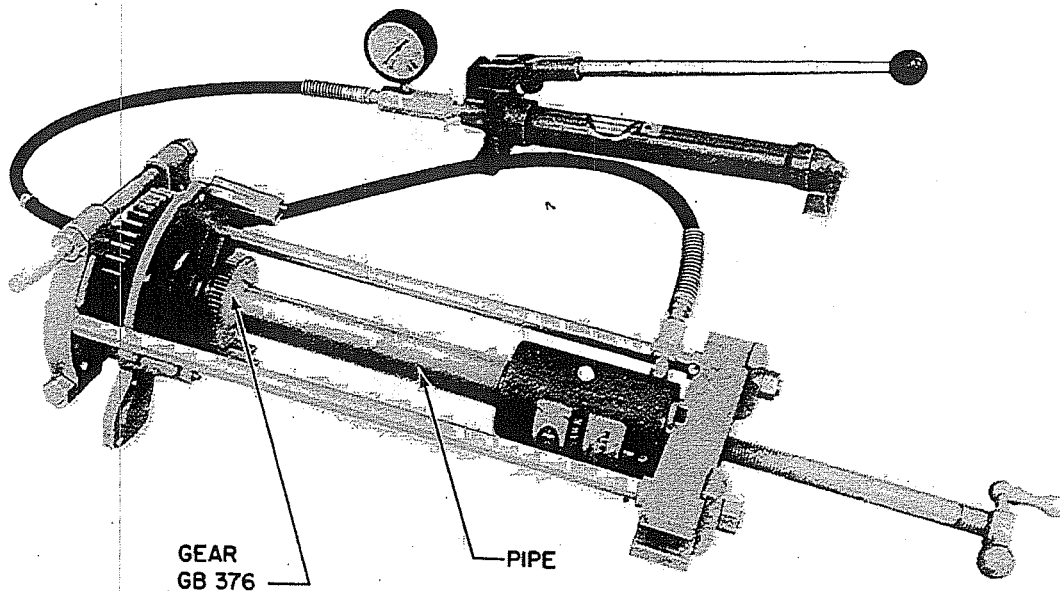

Figure 35. 1 to 1 Shaft, Installation of Gear GB376
- U. Secure the bearing pulling attachment behind Spur Gear GB368. Use pipe specified in step S to press Drive Gear GB376 onto Shaft GB381 (figure 35). The shaft should be cleaned and lubricated prior to assembly.